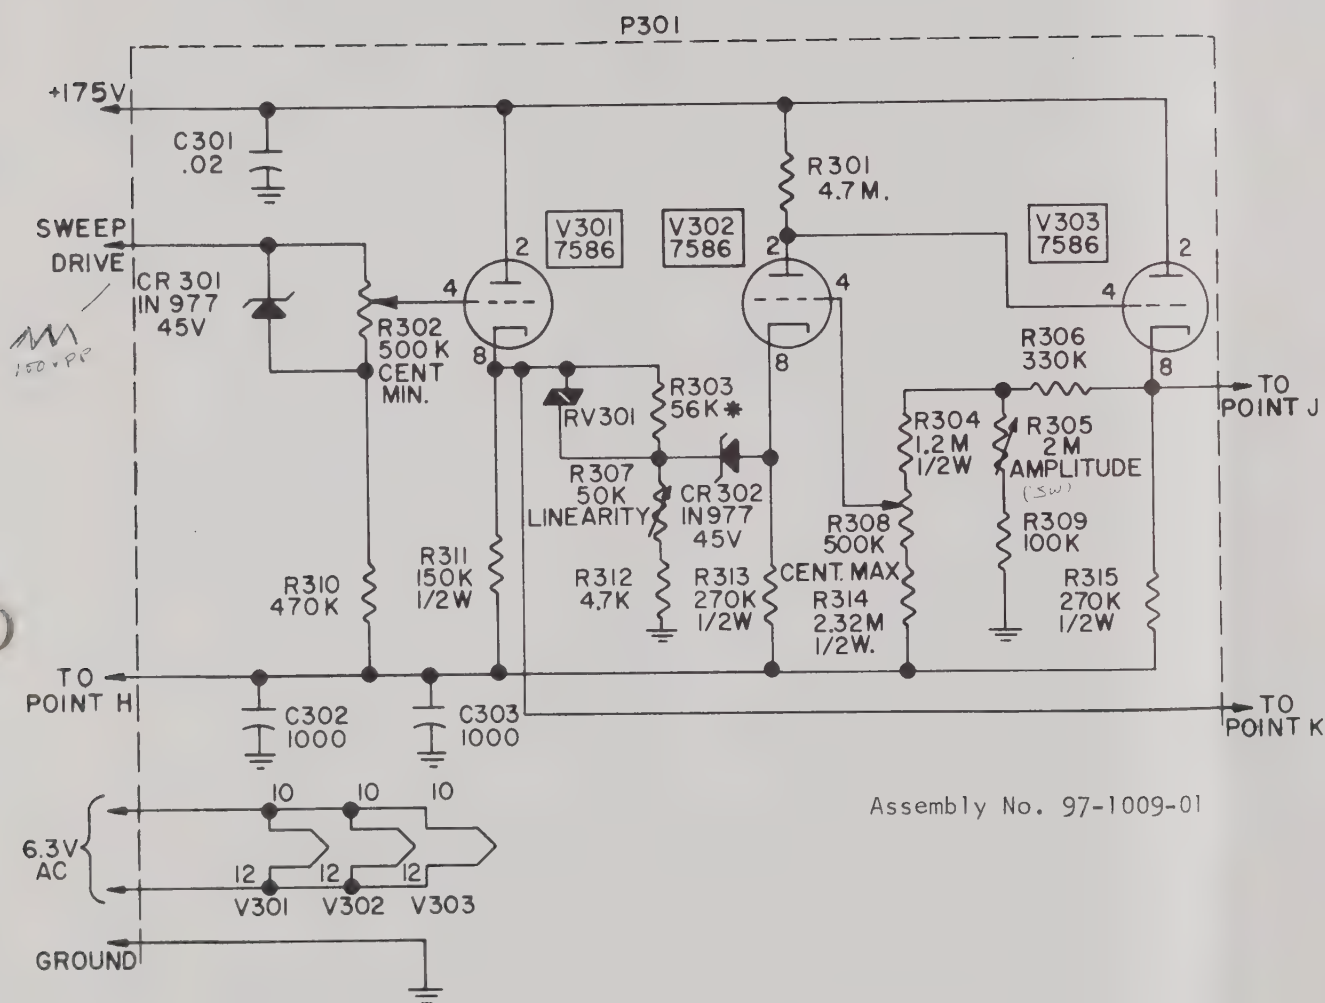

Figure 7-3 Sweep Drive Shaper
c. Module No. 3, Sweep Drive	Figure 7-3